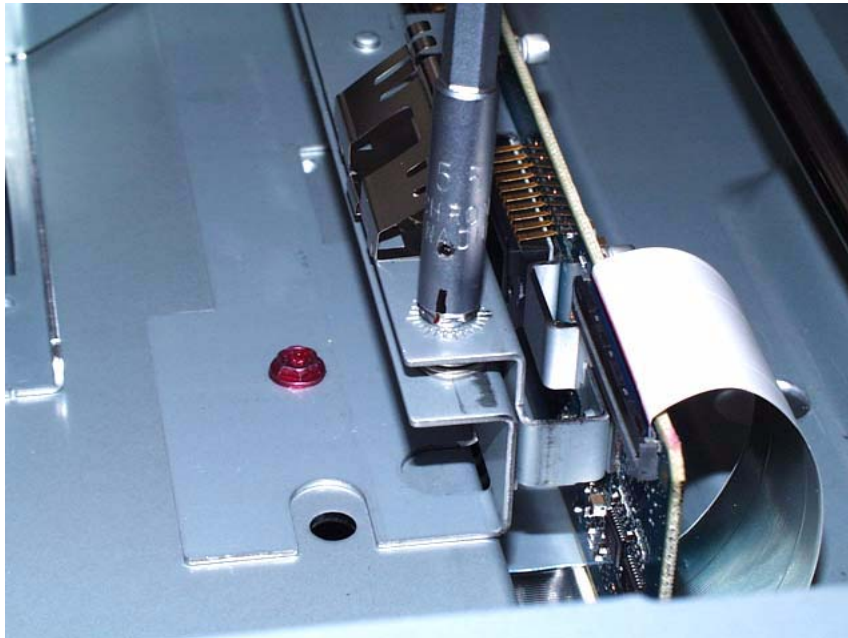

Figure 1 Tool and Front Optics Adjusting Nut
1. Place an index mark on the barrel of a 5.5mm nut driver. The following figure shows the tool and the adjusting nuts. (Figure 1)